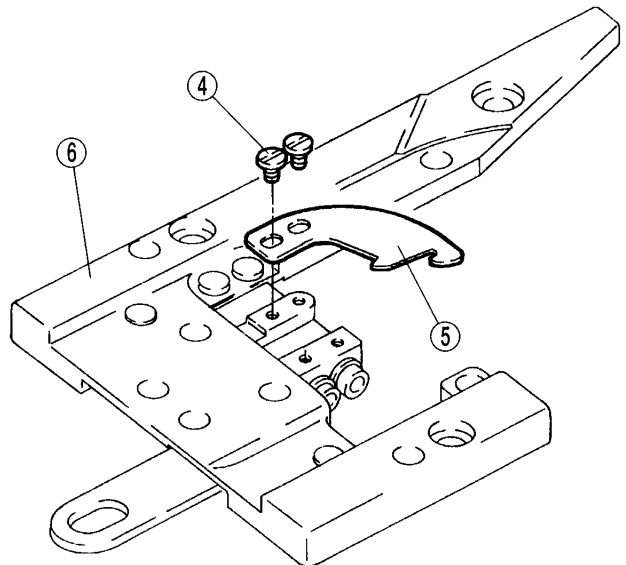

Fig.10
2. Remove screws ④ and then replace lower knife ⑤. After replacing the lower knife, tighten screws ④ temporarily (see Fig.10).